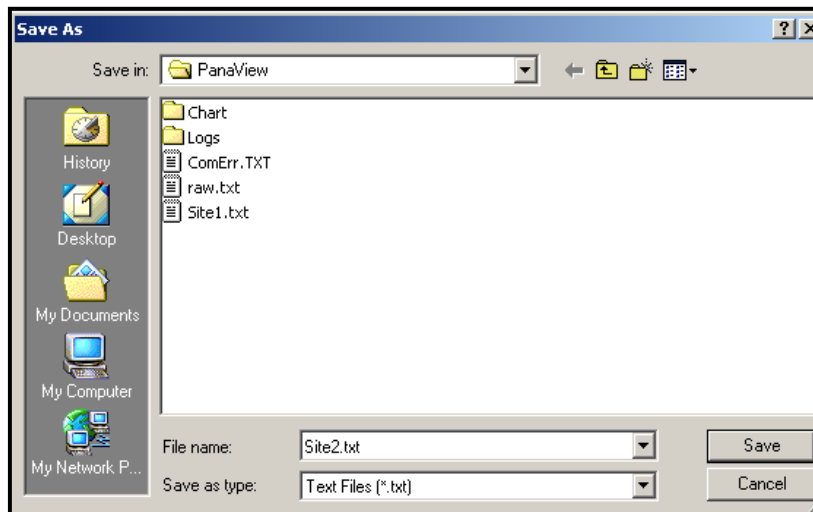

Figure 29: Save As Window
To save the raw signal, click **Save**. A window opens similar to the one shown in *Figure 29* below. Enter the desired name, and click **Save** to save the signal as a text file.
2. Click *Save Site to PC*. A window opens similar to *Figure 29 on page 99*.